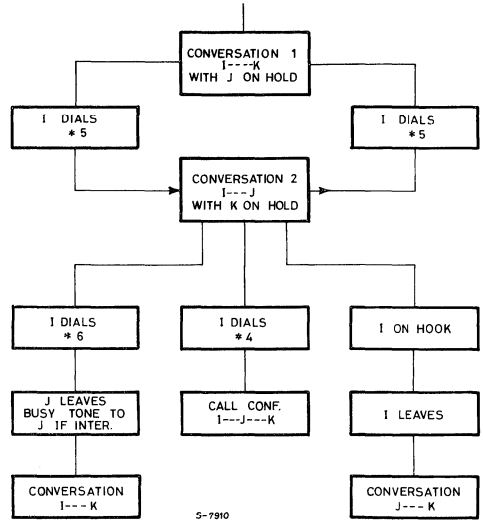

Figure 13. Alternate Conversation
**Alternate Conversation.** (see Figure 13). When a call has been placed on hold and another conversation initiated, a user may alternate between the two lines by dialing 5.